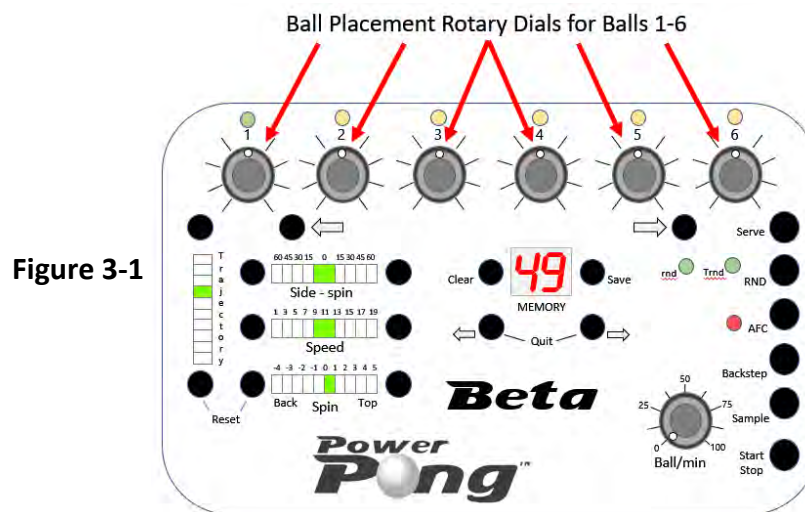

Figure 3-1
3.2.1 Ball Placement Rotary Dials (Figure 3-1)